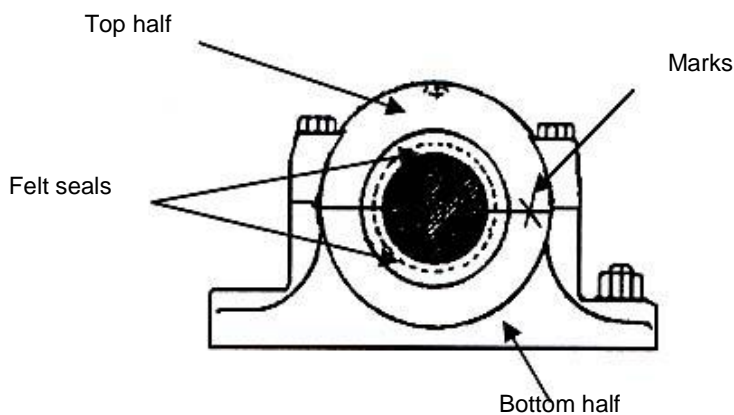

FIG 6.
- Make corresponding marks on the top and the bottom half of the plumber block (Fig 6) to ensure correct reassembling.
- Remove the seals (See Fig 6 on the previous page) and check that they still maintain contact with the shaft, and whether they have hardened or collected dirt.